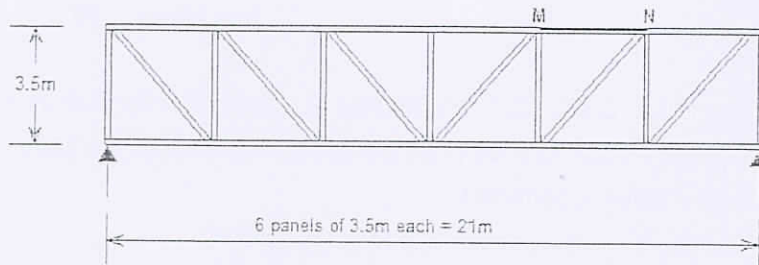

Figure Q13(a).
13. (a) A steel foot bridge of span 21m is designed using a N-type lattice girder shown in Figure Q13(a) laterally supported by rakers. Width of walkway is 4m. The flooring consists of 130mm thick RCC slab with floor finish 0.75 kN/m^2 . Live load = 4 kN/m^2 . Design the member MN.